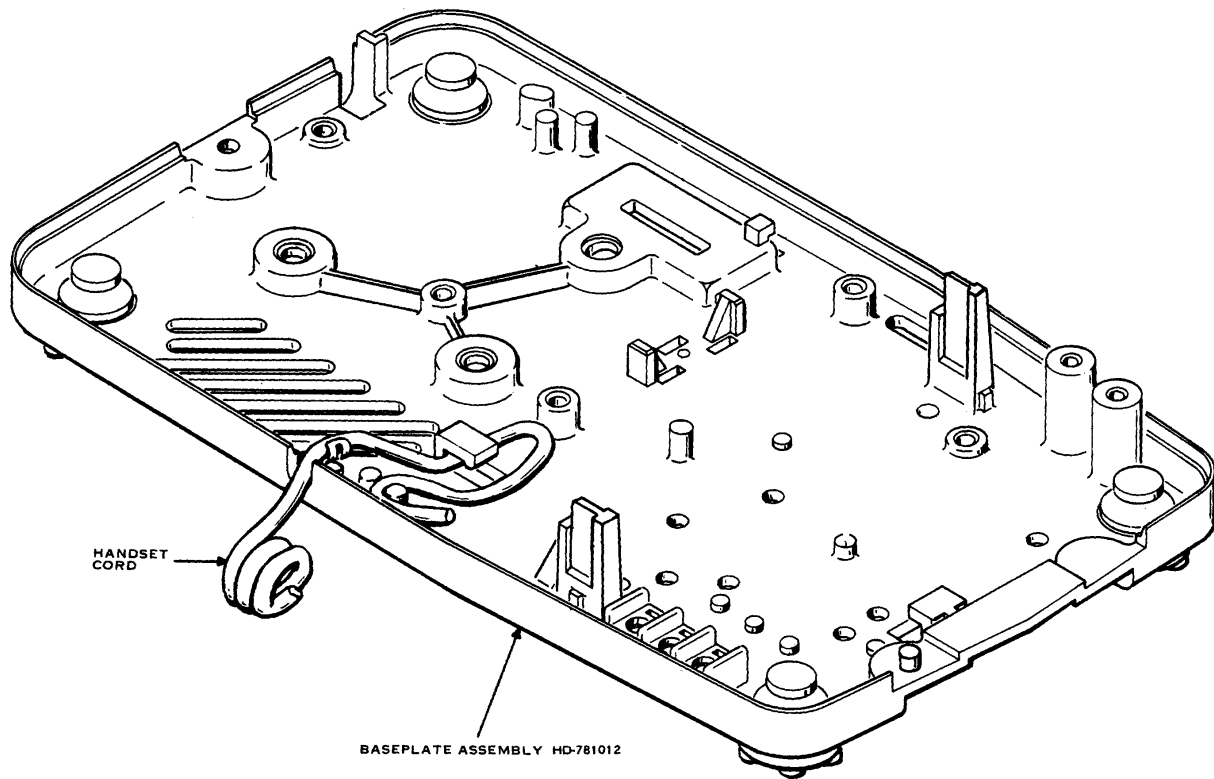

Figure 10. Proper Placement of Handset Cord in Baseplate (HD-781012).
- (d) Insert the new handset cord through the U-shaped slot in the side of the baseplate and route the handset cord through its mounting tab and around its mounting boss as shown in Figure 10.